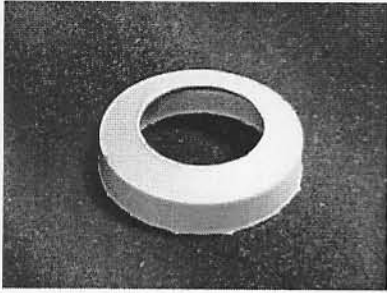
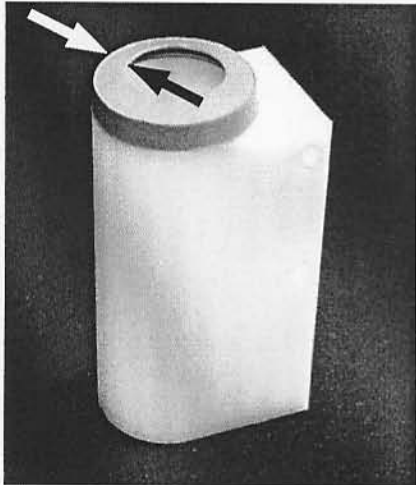

Fig. 32a
Fig. 32b
i. Install the gasket (Fig. 32a) onto the top of the mixing block and apply a thin film of sanitary lubricant such as SaniGel (SaniServ part number 1150) only to the top surface - Fig. 32b.